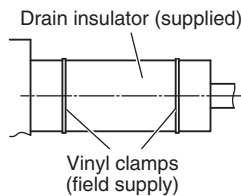

Fig. 3-43
- After connecting the drain pipe securely, wrap the supplied packing and drain pipe insulator around the pipe, then secure it with the vinyl clamps. (Fig. 3-43)